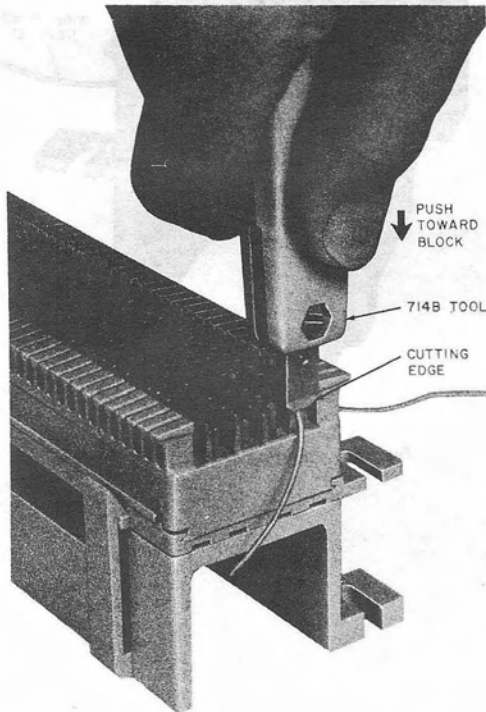

Fig. 15—Making End Termination
3.14 To make an end termination on the 66-type connecting block, proceed as follows (Fig. 15 and 16):